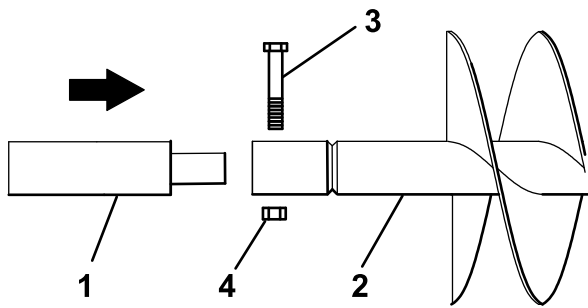

Figure 6
6. If using an extension with the auger, insert the end of the extension into the end of the auger and secure the auger to the extension with a bolt (7/8 x 4-1/2 inch) and nut (7/8 inch) as shown in Figure 6.